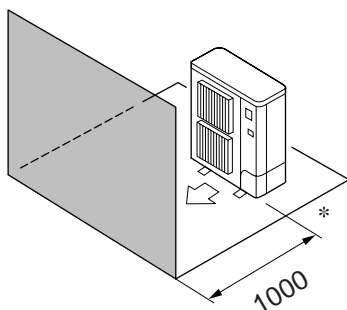

Fig.2-7
- Obstacles at front only (Fig. 2-7)